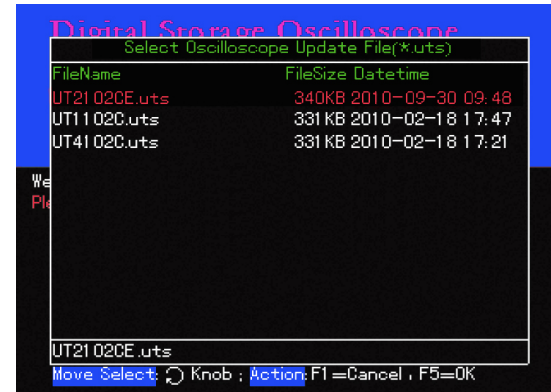

Figure 5-2
3. Press [F5] as shown in Figure 5-1 to start the program upgrade operation. If there is only one upgrade pack in the USB root directory, go directly to step 4. Otherwise the upgrade document selection screen shown in Figure 5-2 will pop up. Use the jog dial to select the document you need, then press [F5] to confirm. To exit upgrade, press [F1].